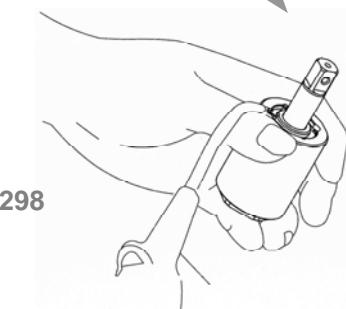

Fig. 298
**④ Use an air spray gun to blow off the oil on the cylinder seat, Fig. 298.**